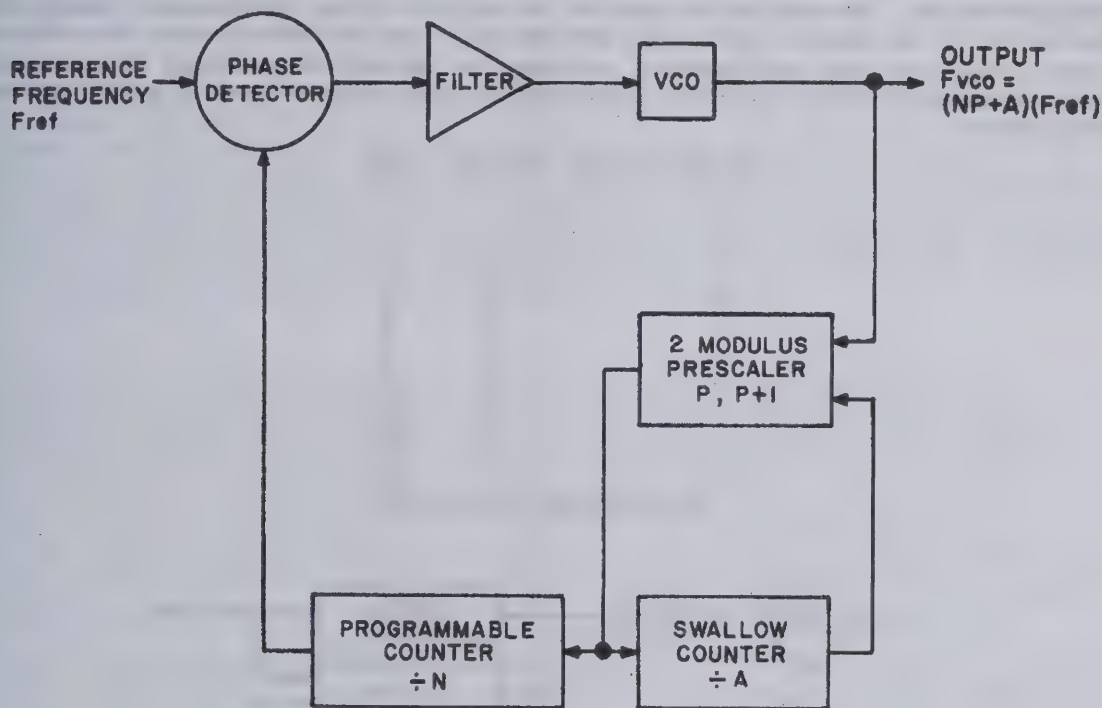

Figure 3-7. Two-Modulus Prescaling in the Phase Lock Loop
A variation of the basic phase lock loop, shown in Figure 3-7, is utilized in the 1st and 2nd LO Synthesizers. The divider portion consists of a two modulus prescaler and two programmable counters. The two-modulus (divider) prescaler accepts the output from the VCO and divides it by one of two numbers (P or $P+1$). The prescaler in the 1st LO is a divide-by-50/51 counter and the 2nd LO prescaler is a divide-by-100/101 counter. The swallow counter controls the number of times the prescaler divides by $P+1$. The programmable counter counts the number of pulses from the prescaler. Totally, these three components provide for coarse (N) and fine (A) tuning of the VCO.